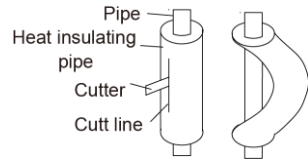

Fig. 4.10
- (2). Do not bend the pipes in an angle more than  $90^\circ$ .
- (3). When pipes are repeatedly bent or stretched, the material will harden, making it difficult to bend or stretch them any more. Do not bend or stretch the pipes more than three times.
- (4). When bending the pipe, do not bend it as is. The pipe will be collapsed. In this case, cut the heat insulating pipe with a sharp cutter as shown in Fig. 4.10, and bend it after exposing the pipe. After bending the pipe as you want, be sure to put the heat insulating pipe back on the pipe, and secure it with tape.